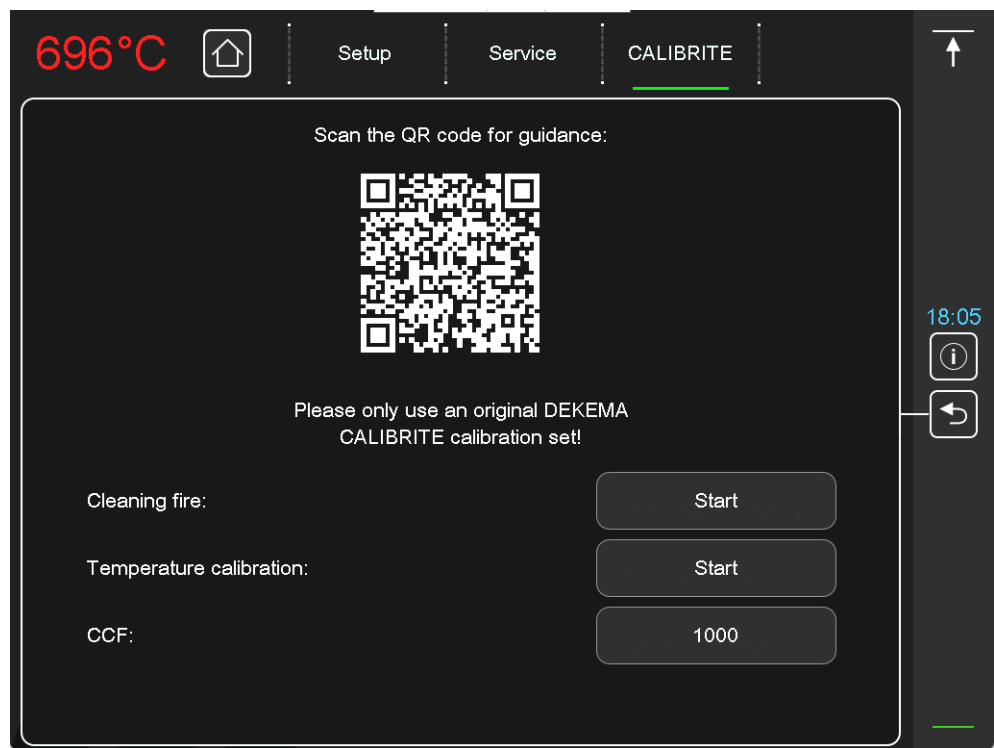

Fig. 7-2 Start temperature calibration
We recommend to perform a cleaning fire program (see Fig. 7-2) before starting the calibration.
2. In the Temperature Calibration window (see Fig. 7-2), tap the input field for the CCF value. The “Calibration Factor” numeric keyboard window opens, as shown in the following illustration.